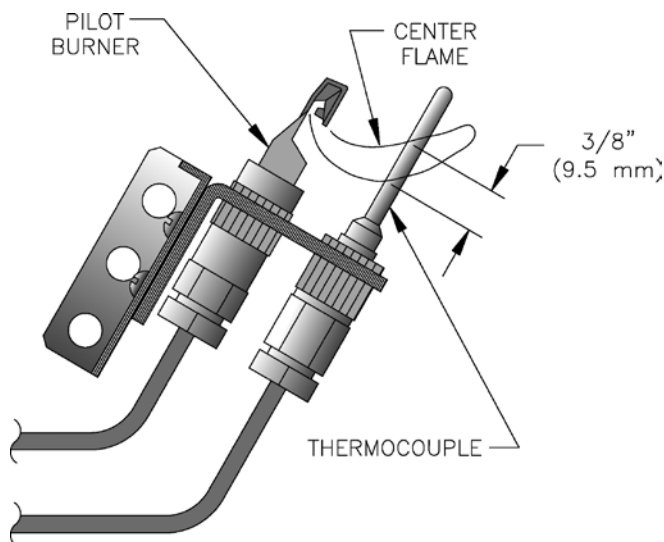

Figure 54: Pilot Burner Flame, Honeywell Q327
- b. Continuous Ignition (Standing Pilot), Models IN8 through IN12. See Figure 54. Pilot burner produces three (3) flames. Center flame should be steady, medium hard blue enveloping 3/8 to 1/2 inch of thermocouple.